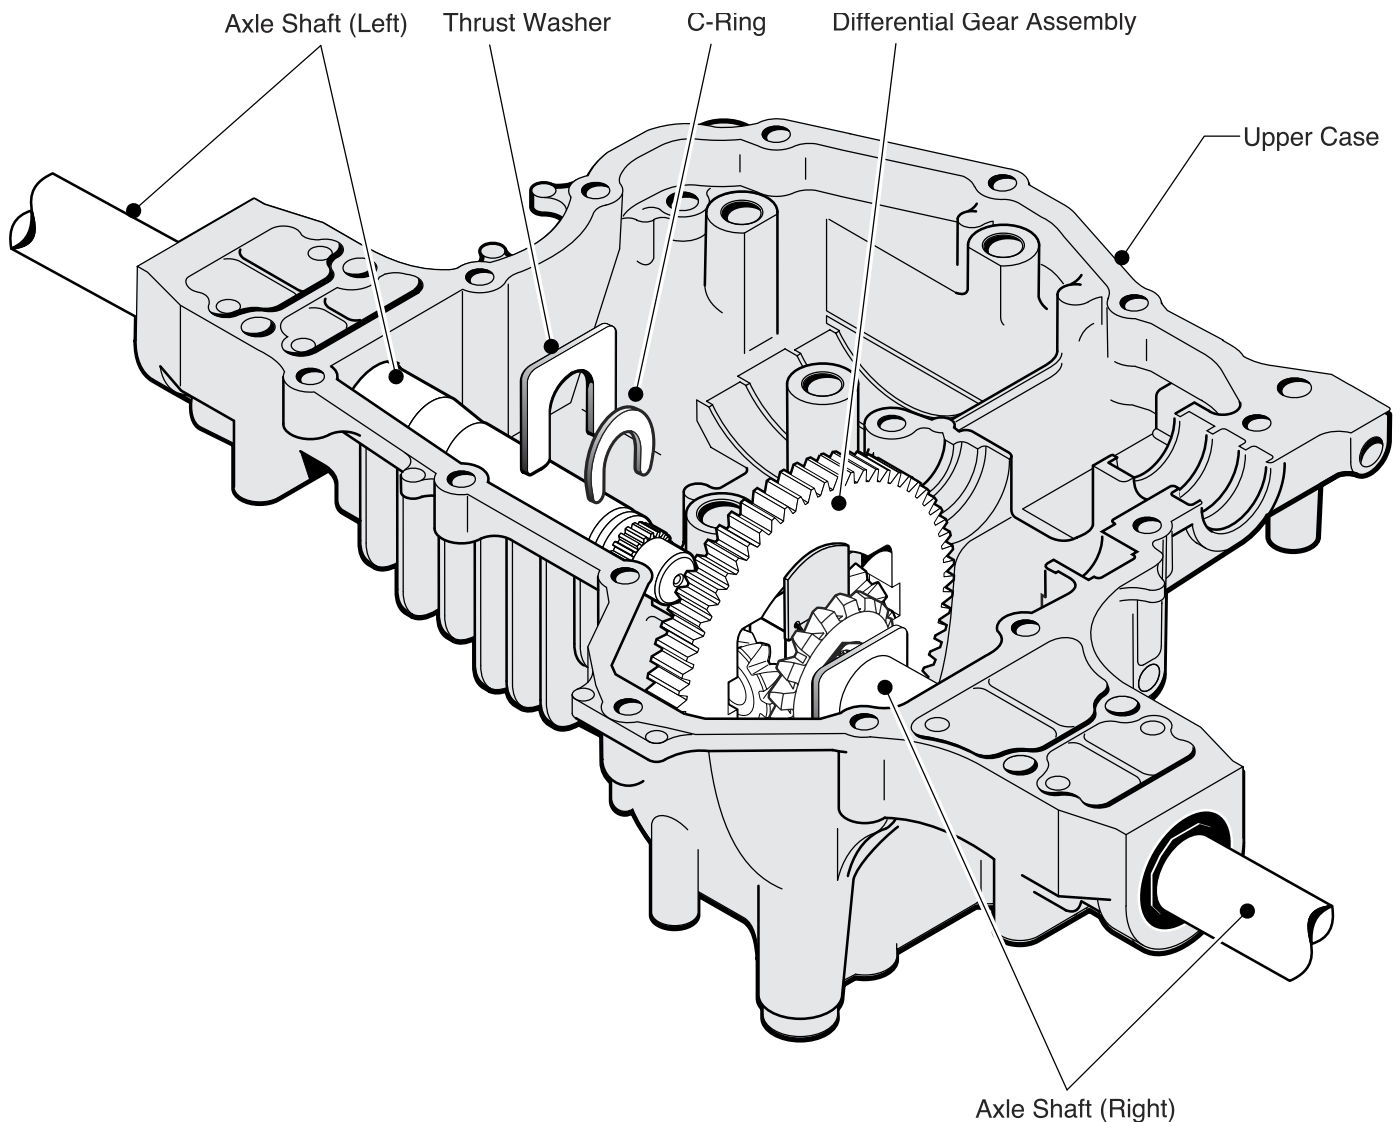

Fig 14, Differential Gear Assembly and Axle Removal
1. Remove Thrust Washer from either the Left or Right Axle. (Fig. 14, 16)
2. After removing the Thrust Washer, rotate the Axle until the open end of C-Ring is facing downward. Holding the Differential Side Gear stationary, slightly slide the Axle outward exposing the C-Ring. Using a Telescoping Magnet, remove C-Ring. (Fig. 14, 16)
5. Carefully back out and remove the Left and Right Axle Shafts. (Fig. 14, 16)